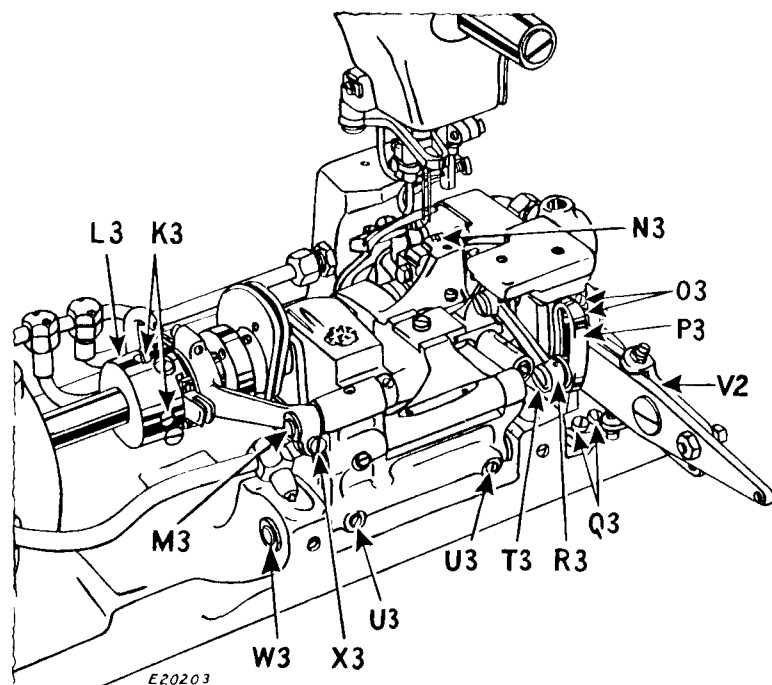

Fig. 38. Removing Feed Mechanism
See Fig. 38
Remove the presser foot and the throat plate. Remove the work plate. Take out the two screws O3, only two of which are visible in Fig. 38. Remove the feed regulator bracket and lever V2.
**CAUTION**—When replacing, centralize the feed dog and the gathering feed in the slots in the throat plate, as instructed on pages 23 and 24. Make sure that the two screws U3 engage the flats on the shaft W3. When connecting the gathering feed link to the regulator P3, see that the small washer R3 is in place on the screw stud T3, as shown in Fig. 38 and that the tension spring is attached to the stud at the inner end of the feed regulator lever V2 and to the stud in the machine bed.